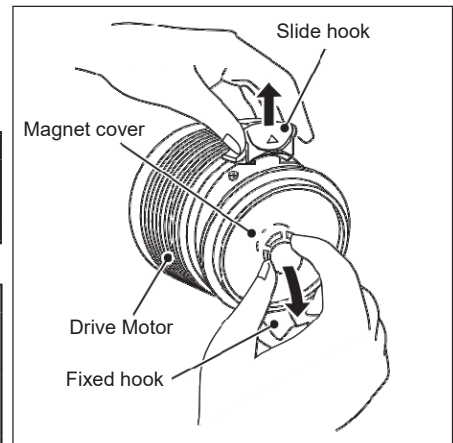

Figure 1-31
- Remove the magnet cover of the Drive Motor. (Figure 1-31)